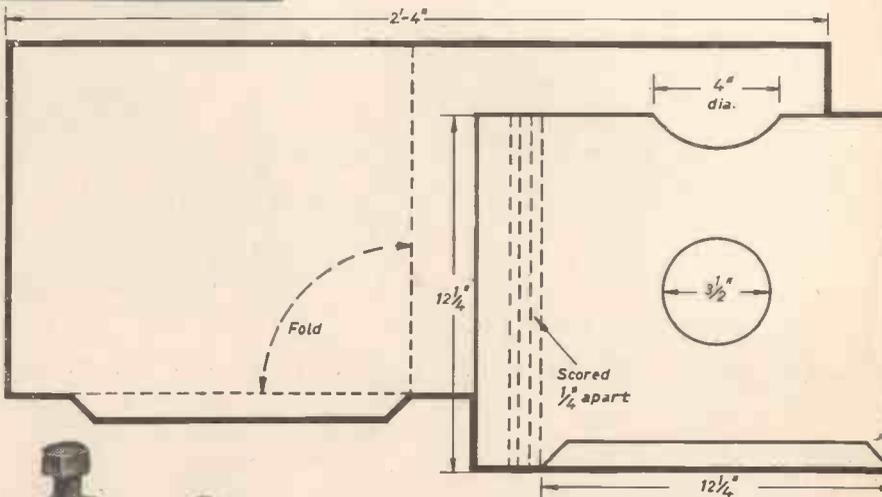

Fig. 6. (Below)—A view of the completed cutting device.
Two large hexagon nuts, with threads stripped and grub screws fitted, are required to complete the apparatus (see Fig. 6).
**T**HE phrase “vertical take-off and landing” is already so well known that it has been cut down to an abbreviation. It is generally accepted as being the essential characteristic of the aircraft of the future. VTOL received its first practical support in August 1954 when the Rolls-Royce “Flying Bedstead” demonstrated that it was possible to stabilise a jet-sustained platform by means of subsidiary control jets acting about all three axes (Fig. 6). At this point, Short Bros. & Harland in Belfast with a Ministry of Supply contract in their pocket started construction of the SC1 (Fig. 1).